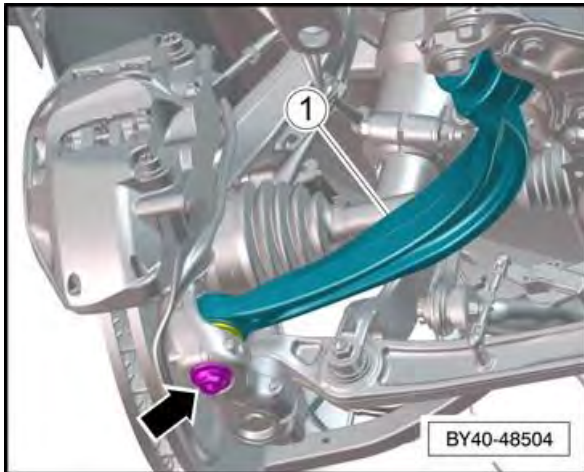

Figure 1
Figure 1 details the left hand front suspension, rear most lower suspension lever (1)